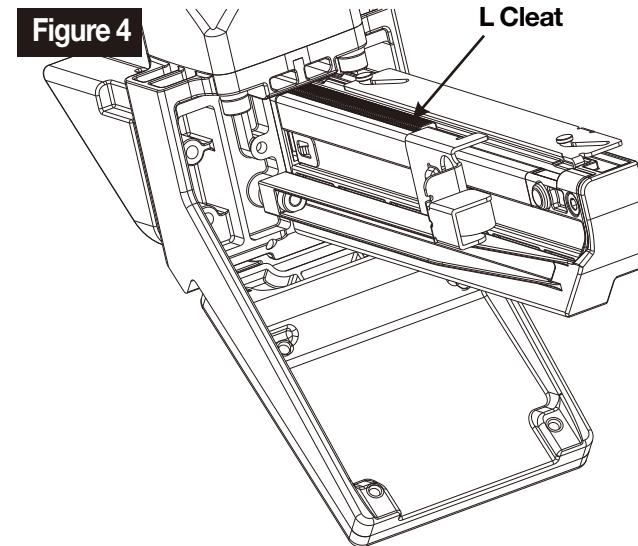

Figure 4
4. Press the lock button(B), allow the pusher (A) to slide forward and engage the fastener. The pusher (A) will stop when it rests against the end of cleat nails. (See figure 4)